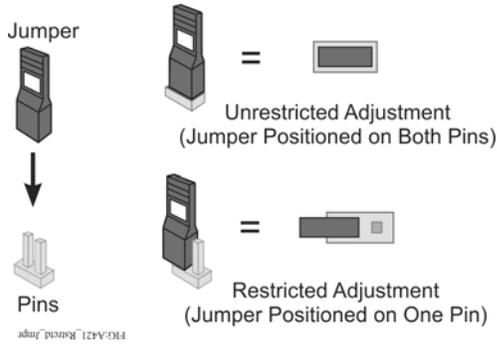

Figure 13: Repositioning the Jumper to Restrict Control Adjustment
1. Ensure that the A421 is not in the restricted mode (the jumper is positioned on both pins). See Figure 13.
4. Disconnect power to the control and reposition the jumper to one pin (Figure 13). Reconnect power.